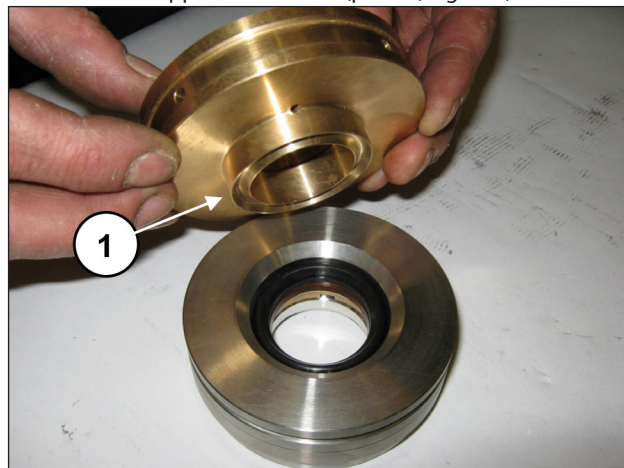

Fig. 185
Join the seals support to the liner (pos. ①, Fig. 185).